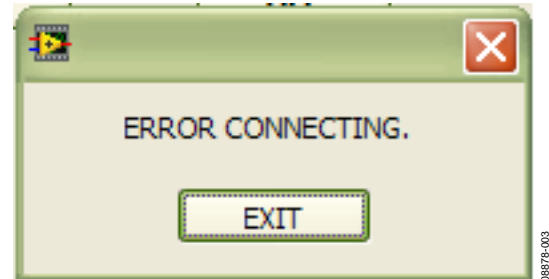

Figure 3. Error Message
3. If the SDP board is not connected to the evaluation boards a message box appears as shown in Figure 3. Check the connection between the SDP and EVAL-AD527xSDZ boards and run the program again.